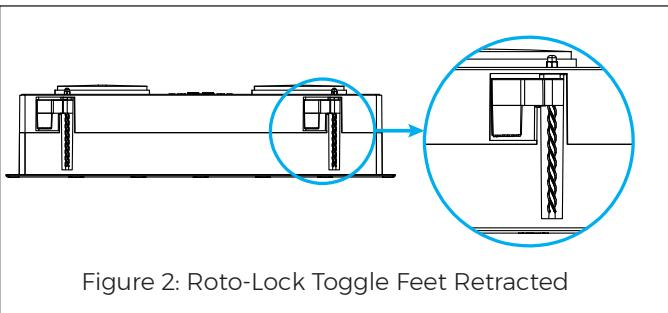

Figure 2: Roto-Lock Toggle Feet Retracted
5. Make sure all the Roto-Lock toggle feet are retracted so that the speaker can fit within the mounting hole (see Figure 2).